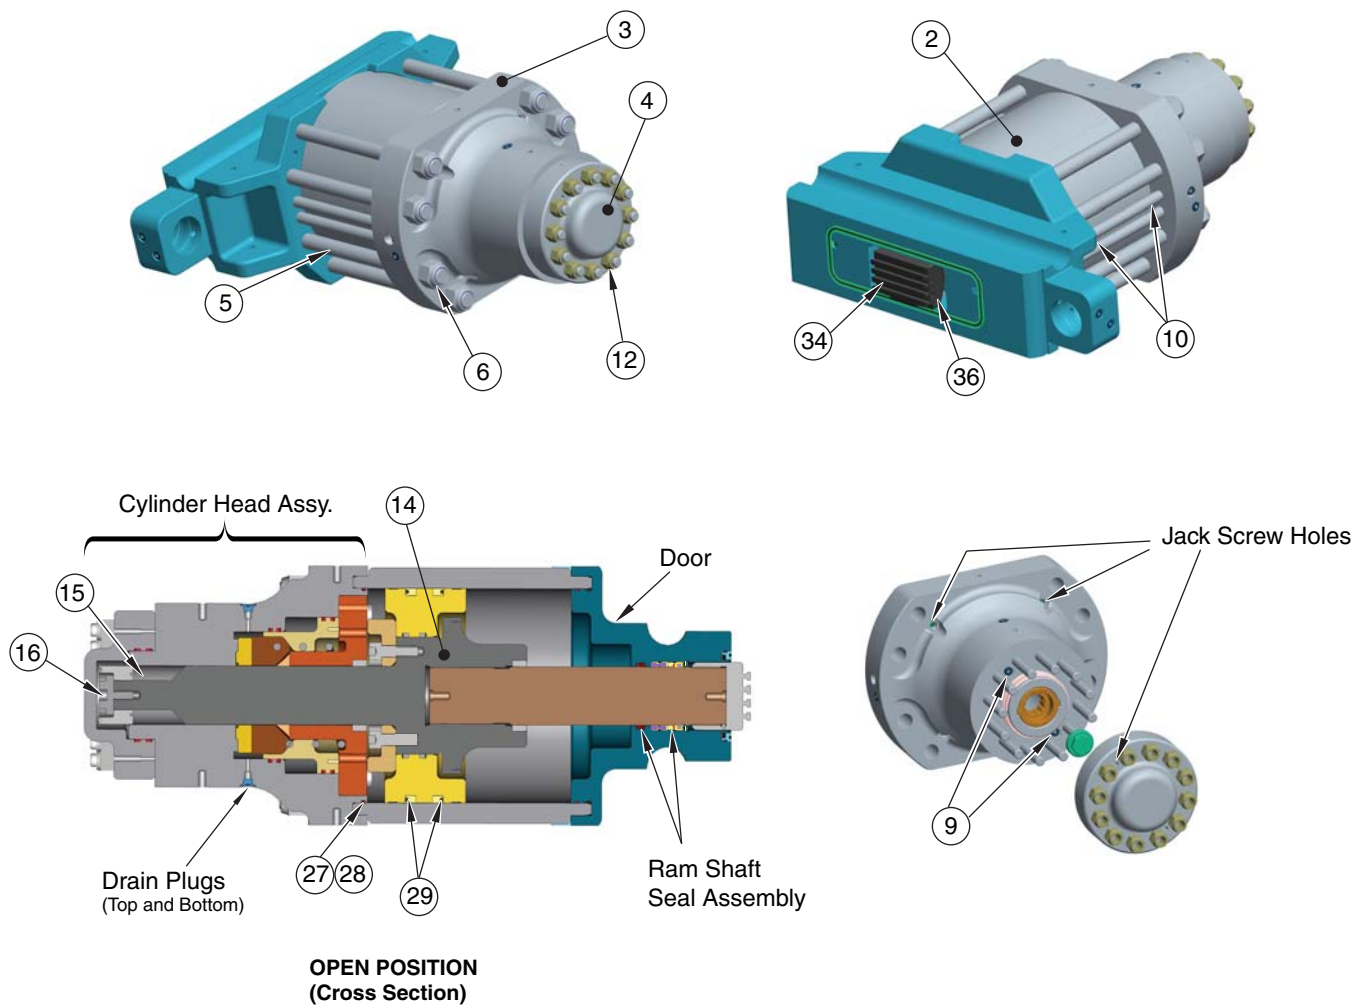

Figure 5-76. 22” PosLock Door Assembly Components
(Numbers in parentheses correspond to Figure 5-76 on page 5-90 and the associated parts list.)
8. Remove both the anti-rotation nut and bolt from the end of the main piston shaft (14).
9. Remove the eight hex nuts (6) from the cylinder head assembly, and install two lifting eye bolts in the top of the assembly (see Figure 5-76 on page 5-90). Attach lifting equipment to the eye bolts to support the weight of the cylinder head assembly. Maintain a level position while removing the assembly. Using the same jacking bolts from the end cap, locate and install in the threaded holes in the cylinder assembly. Tighten the screws to remove the assembly (see Figure 5-76 on page 5-90).
With the cylinder head assembly removed for RSSA replacement, the opportunity can be taken to replace the seals and O-rings within the assembly. For details, see Figure 5-76 and the door assembly drawing in Chapter 6, titled “Specifications and Parts Lists”.
Numbers in parentheses correspond Figure 5-76 on page 5-90 and the table titled “Components of 22” PosLock Door Assembly (P/N 20018931)” on page 5-91.